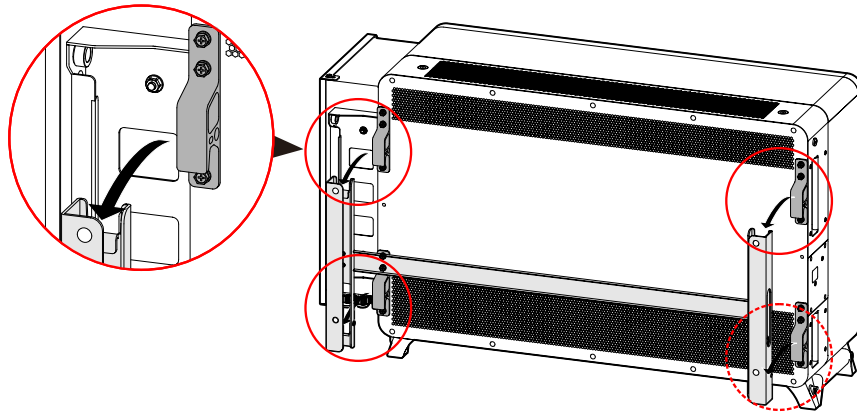

Figure3-16 Hang the inverter onto the installation holder
Step 5 Lift the inverter to the installation holder, make sure that the mounting ears of the inverter and the groove of the installation holder fit well, and then slowly hang the inverter to the installation holder, as shown in Figure3-16.